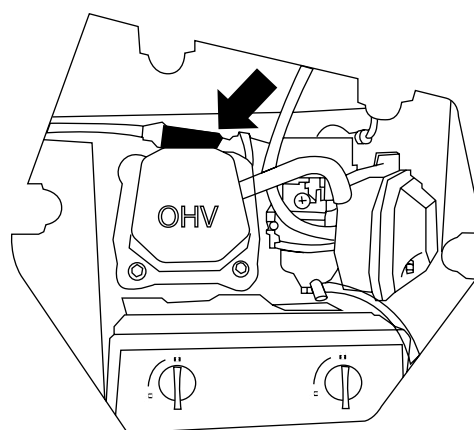

Figure 18: Pull off Spark Plug Cover
4. Remove the spark plug cover by firmly pulling the metal spark plug boot handle directly away from the engine (see Figure 18).